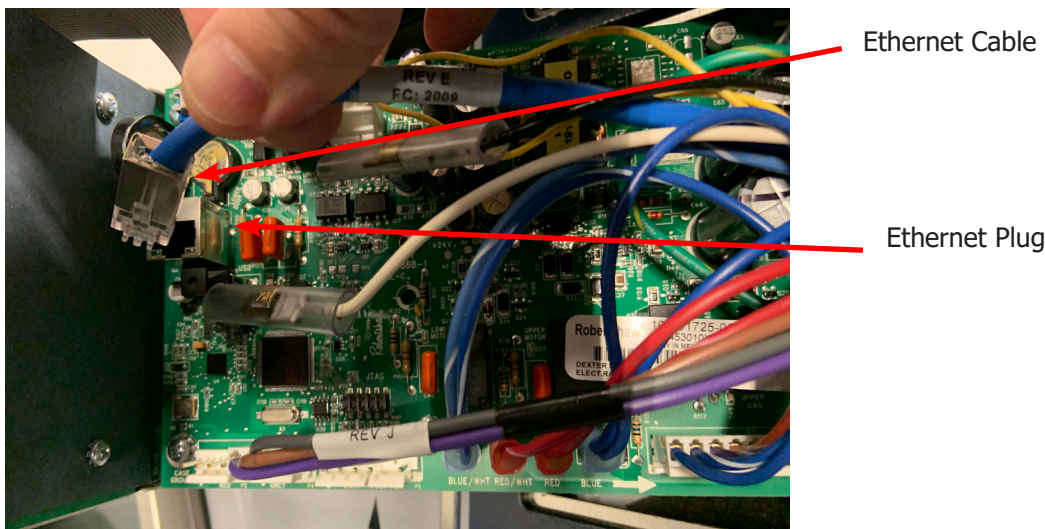

Figure 6
18. Once power to the dryer has been removed, the control trays for the dryers should be unlocked and pulled forward to reveal the connector on the front of the long board mounted to the base of the control (Figure 6). There should be a plastic plug in the connector which may already be removed. (Single pocket dryers also have the same style connector located on the control board.)